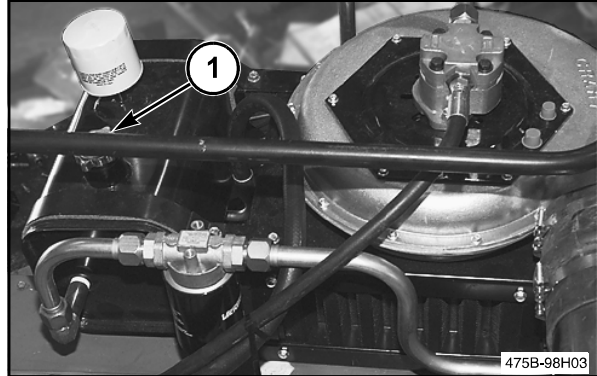

FIG. 71
FIG. 71: The level of the hydraulic oil must be in the correct range specified on the dipstick (1). Add oil as necessary through the filler opening of the dipstick. DO NOT fill the hydraulic reservoir above the top mark on the dipstick. See Specifications for the correct type of lubricant.